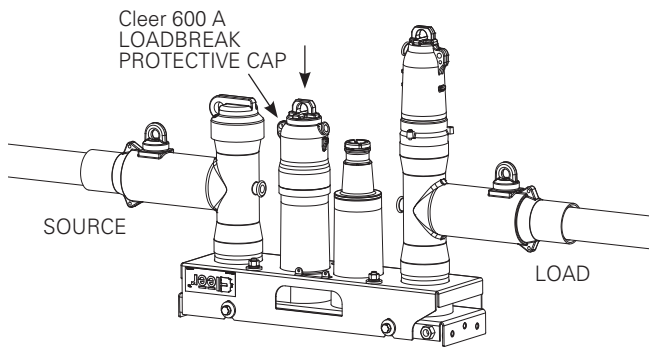

Figure 3. Install 600 A loadbreak protective cap
- Using a clampstick, install a Cleer 600 A loadbreak protective cap on the source-side loadbreak bushing. See **Figure 3**.